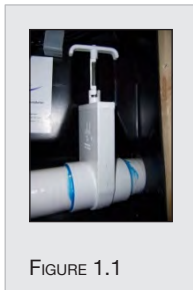
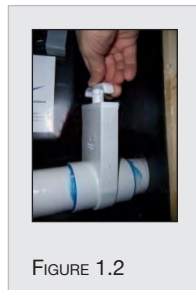
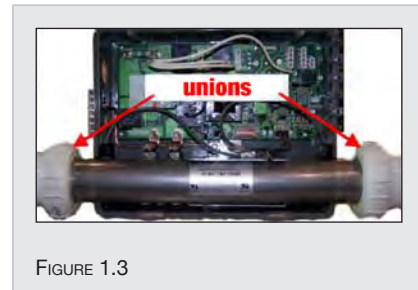

FIGURE 1.1
FIGURE 1.2
FIGURE 1.3
3. Remove the access doors located at each end of the spa to reach the pump and spa pack. Check that the two heater unions are hand tight (fig. 1.3). Vibrations during transport may loosen them. Do not use a wrench. Over-tightening may cause damage to unions and gaskets, which will not be covered under warranty. Check the unions periodically as vibrations from the pump may loosen them and lead to a leak. Check that the shutoff valve from the drain hose is in the off position and that the cap is hand tight. Check that all slide valves are opened (T-handle pulled out (fig. 1.1), the valve is opened; T-handle pushed in (fig. 1.2), the valve is closed).